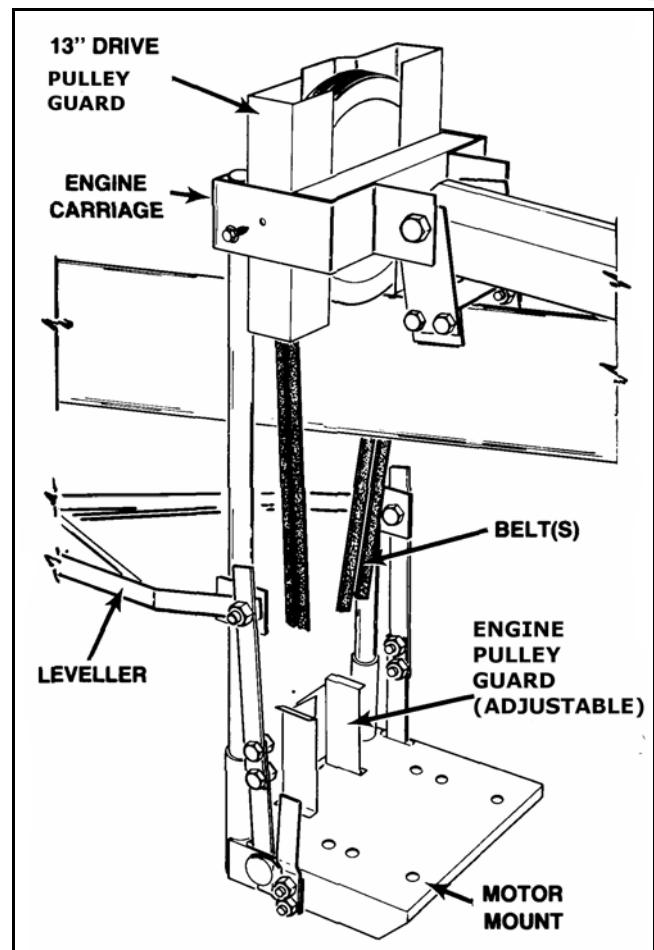

Figure 3.19
16. Install the 13" drive pulley guard with 2 self-tapping screws (Figure 3.19).
17. Install adjustable engine pulley guard with three 1/4" x 1/2" bolts and washer locknuts (Figure 3.19).